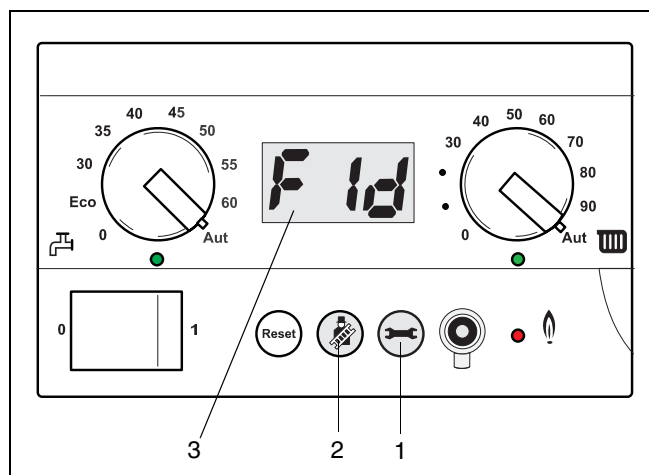

fig. 38 Pump run over time to 24 hours
When there is a freezing hazard set the pump run over time to 24 hours (F1d) (see fig. 38, item 3).
- Press the chimney sweep button and the service button (see fig. 38, item 2 and 1) simultaneously until "L --" appears in the display.
- Confirm the selection by pressing the service button (fig. 38, item 1).